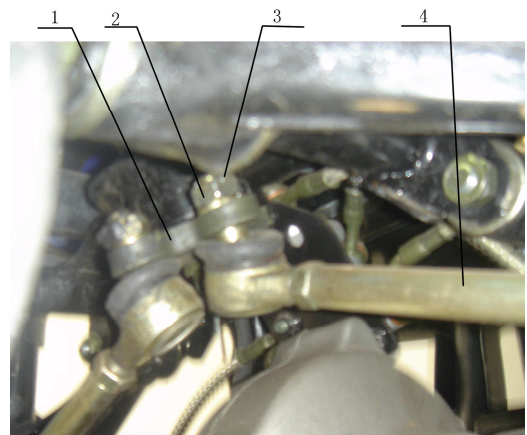

Figure 4-1-8
1. Check whether the nut between the inner ball pin of tension rod and the Turning rocker arm is tightened. ( Figure 4-1-8)
2. Check whether the inner and outer ball pin of the tension rod is loose or got stuck. (Figure 4-1-8)
4. Check whether the hexagon open-groove nut and cotter pin are intact. (No crack or flaw is allowed) (Figure 4-1-8).